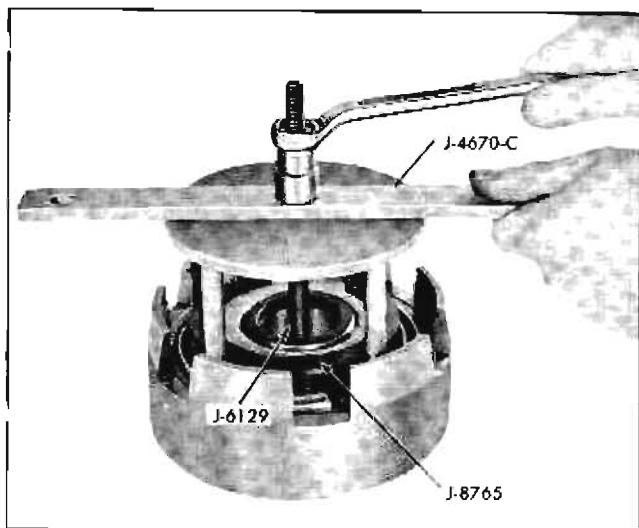

Fig. 7A-49 Compressing Clutch Springs
3. Lift out clutch hub (Fig. 7A-48), then remove nested drive and reaction plates and hub thrust washer.
4. To remove spring retainer, compress the springs using J 8765 adapter ring, J-4670C and J-6129 as shown (Fig. 7A-49). Remove snap ring.